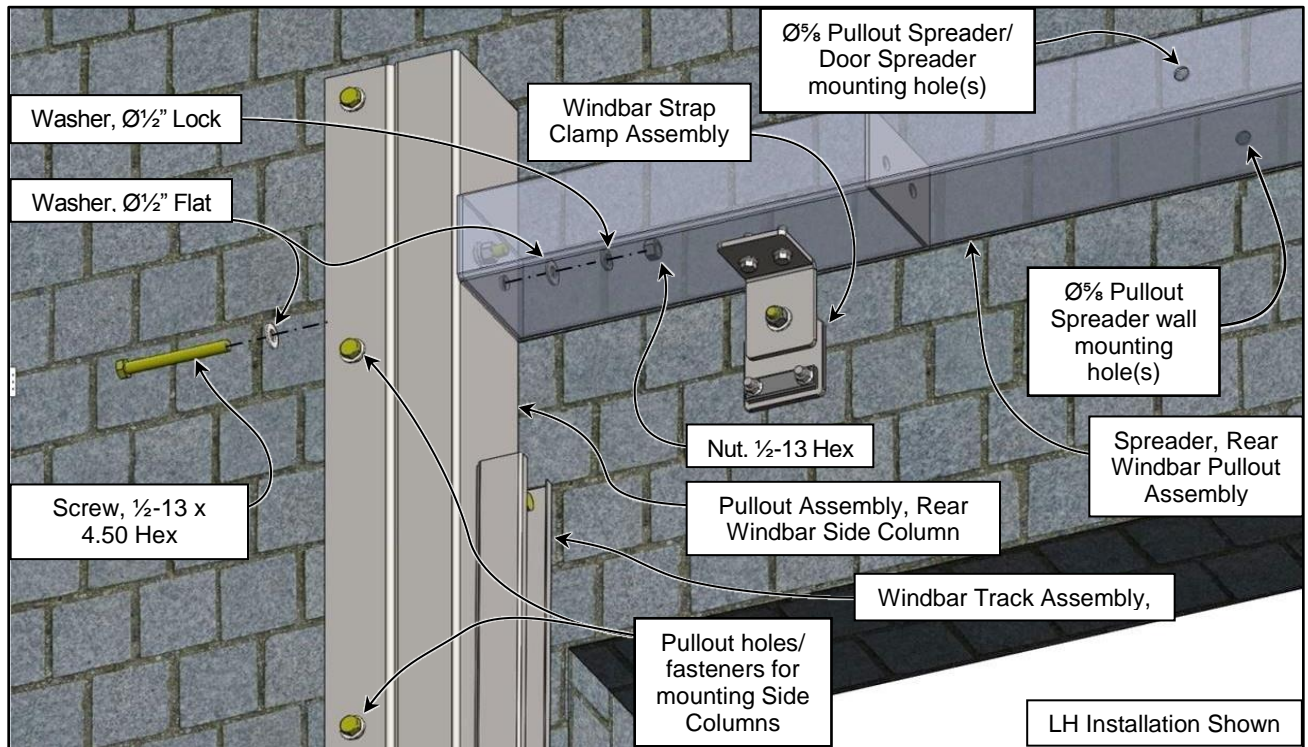

Figure 62
3. Orient the spreader so the bracket mounting holes are closer to the wall. Securely attach the pullout spreader assembly to a lifting device and lift it up to the door top as shown. (See Figure 62)
4. Install the rear spreader assembly between the two side column pullouts using four (4) ½-13 x 4.50 in. hex head cap screws, eight (8) Ø½ in. flat washers, and four (4) Ø½ in. lock washers. DO NOT completely tighten the anchors at this time. Adjustment may be required. (See Figure 62)
6. Install anchors into the rear pullout spreader assembly to secure it to the wall. (See Figure 62)